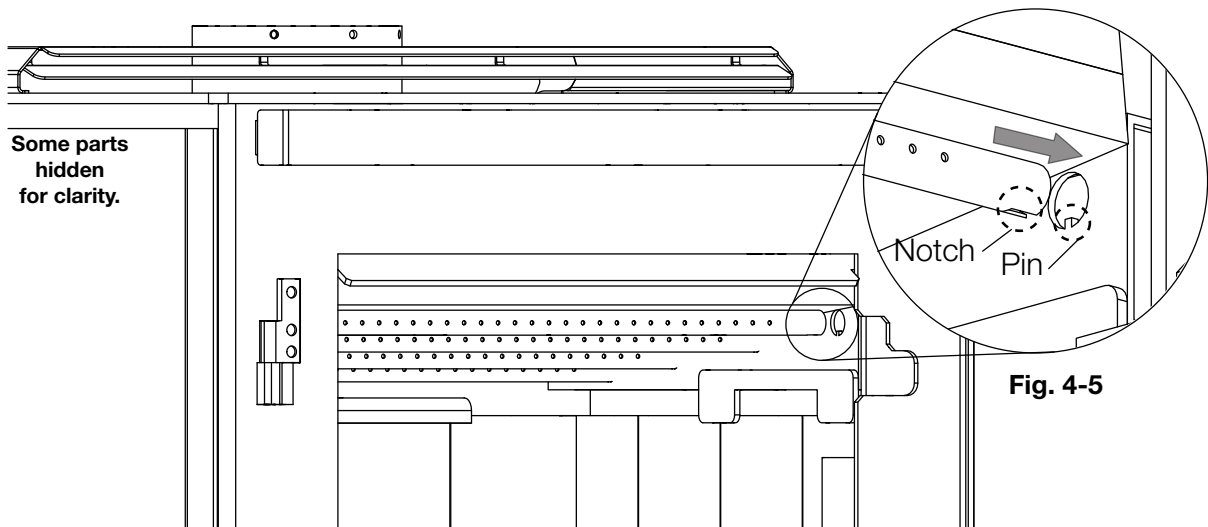

Fig. 4-5
2. Insert the right side of the secondary air tube into the hole in the **right side** of the appliance. Ensure the notch makes contact with the pin (**Fig. 4-5**).